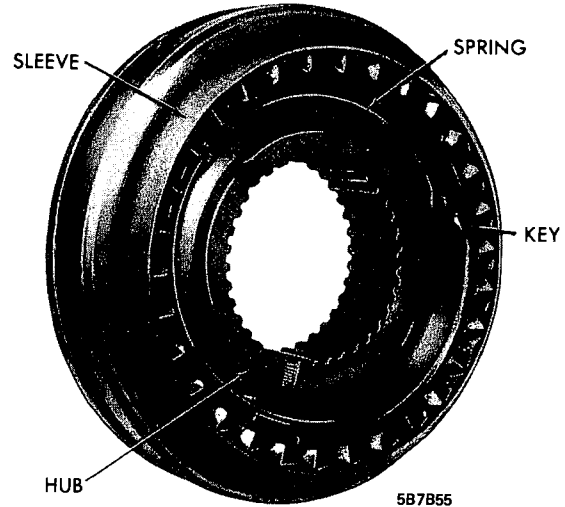

Figure 7B-55 - 3rd and 4th Synchronizer Assembly
3. Place the three keys and two springs in position (one on each side of hub), so all three keys are engaged by both springs. The tanged end of each synchronizer spring should be installed into different key cavities on either side. Slide the sleeve onto the hub aligning the marks made before disassembly. See Figure 7B-55.